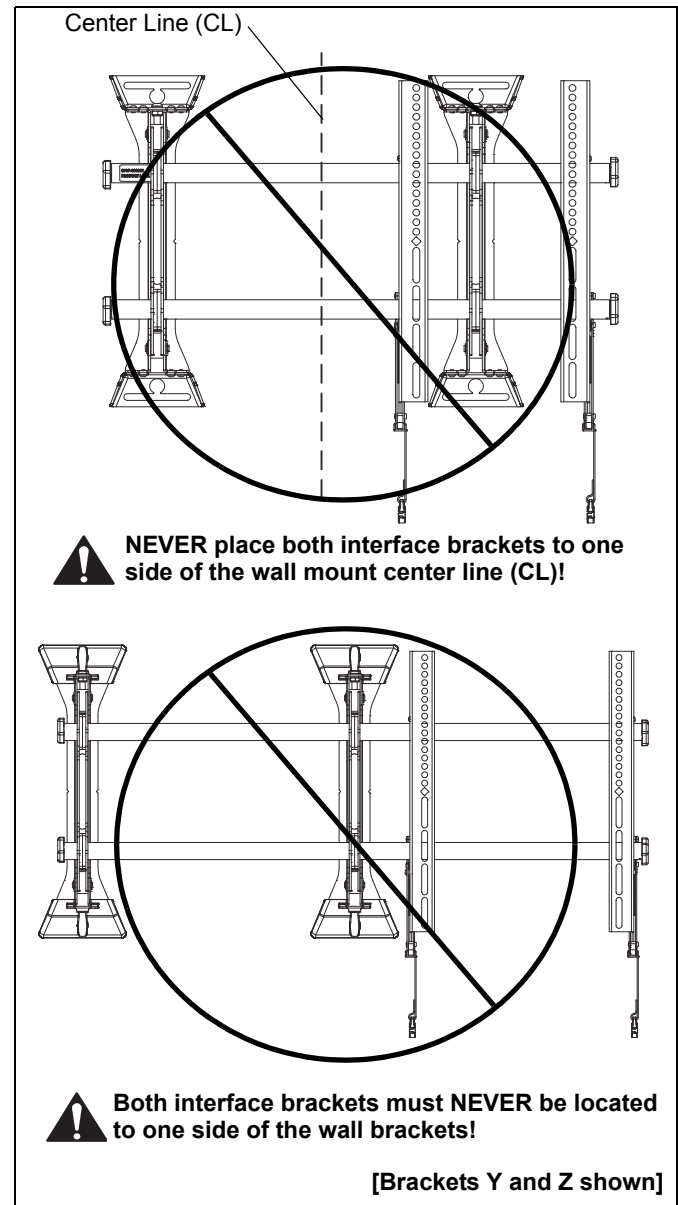

Figure 10
**NOTE:** NEVER place both interface brackets (Y and Z or AA and BB) to one side of the wall mount center line! (See Figure 10)
**NOTE:** Do NOT allow both interface brackets (Y and Z or AA and BB) to be located on same side of wall bracket. (See Figure 10)